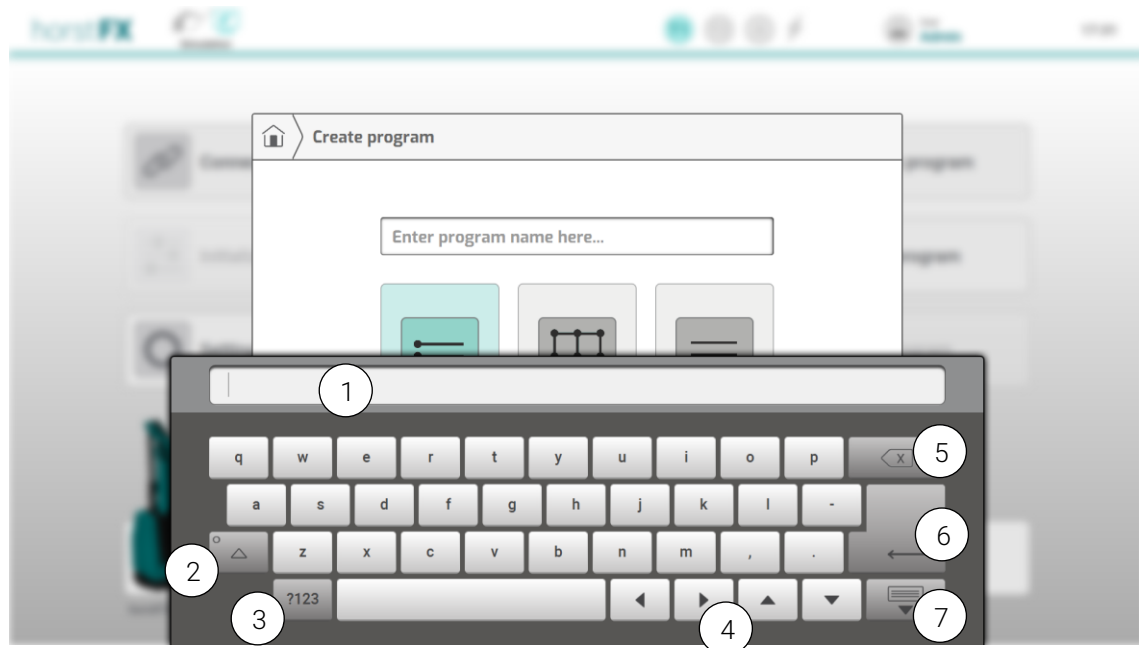
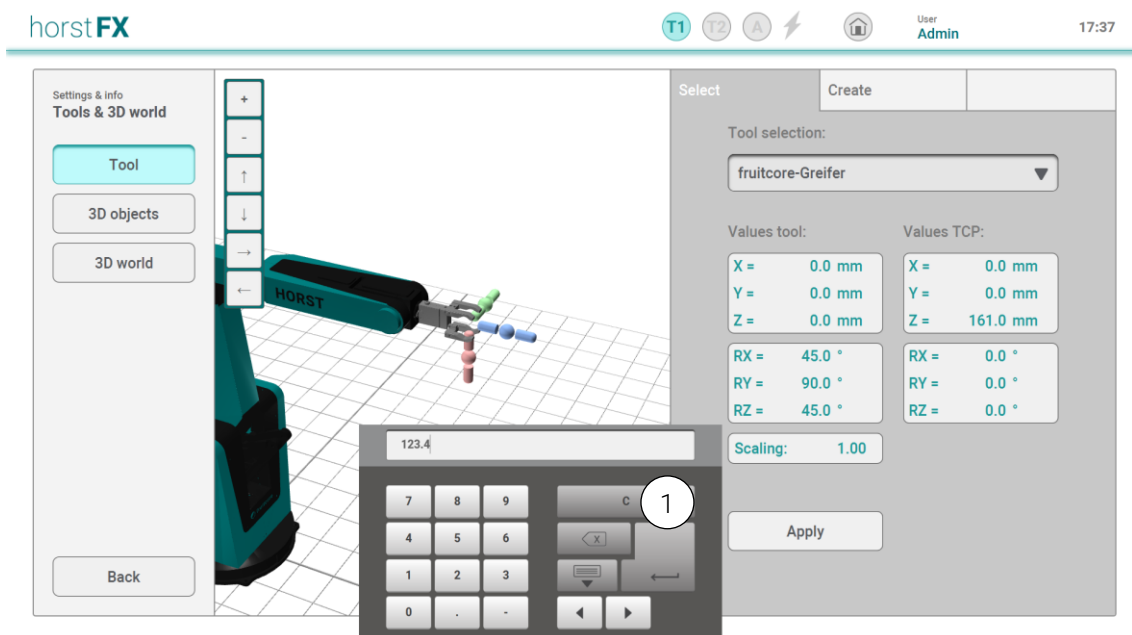

Fig. 3-5: On-screen keyboard for text input
Fig. 3-7: On-screen keyboard for number input
If entries have to be made in horstFX, this is made possible by an on-screen keyboard. There is a standard on-screen keyboard for text input (see Fig. 3-5) and a smaller on-screen keyboard for entering numeric values (see Fig. 3-7). The correct on-screen keyboard appears automatically, depending on the type of input field.
The keys of the numeric on-screen keyboard have the same functionality as the keys of the standard on-screen keyboard. It just has one other C key, with which the entire input can be deleted (see Fig. 3-7, (1)).